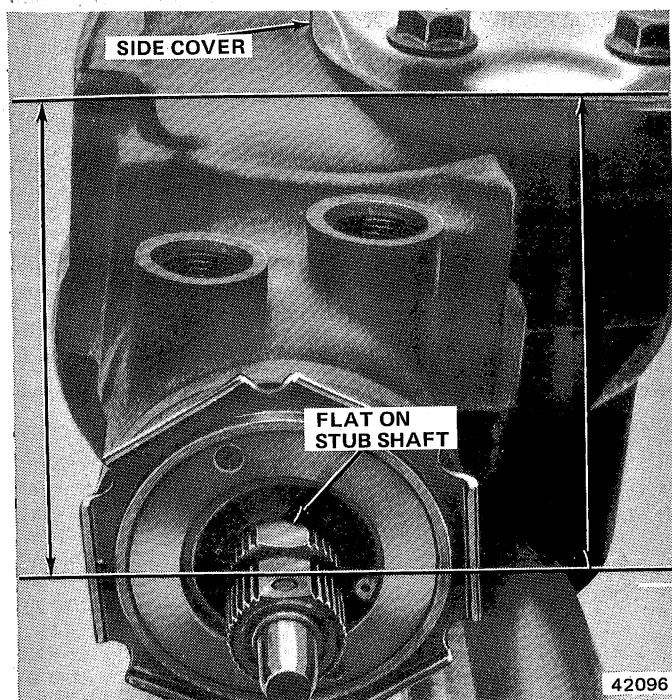

Fig. 2L-43 Stub Shaft Position with Gear Centered
NOTE: When the gear is centered, the flat on the stub shaft should face upward and be parallel with the side cover (fig. 2L-43). In addition, the master spline on the pitman shaft should be in line with the adjuster screw (fig. 2L-44).
(4) Install 50 inch-pound (6 N•m) torque wrench and deep socket on stub shaft and place wrench in vertical position to take reading (fig. 2L-45).